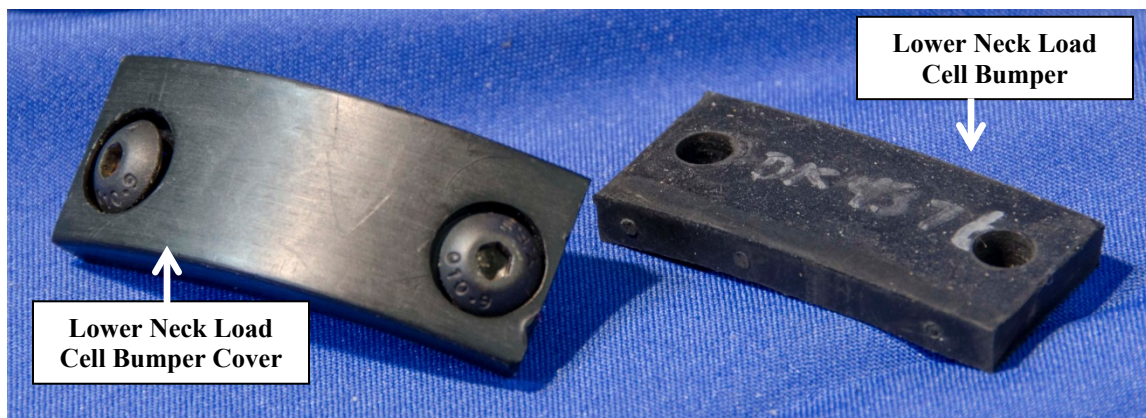
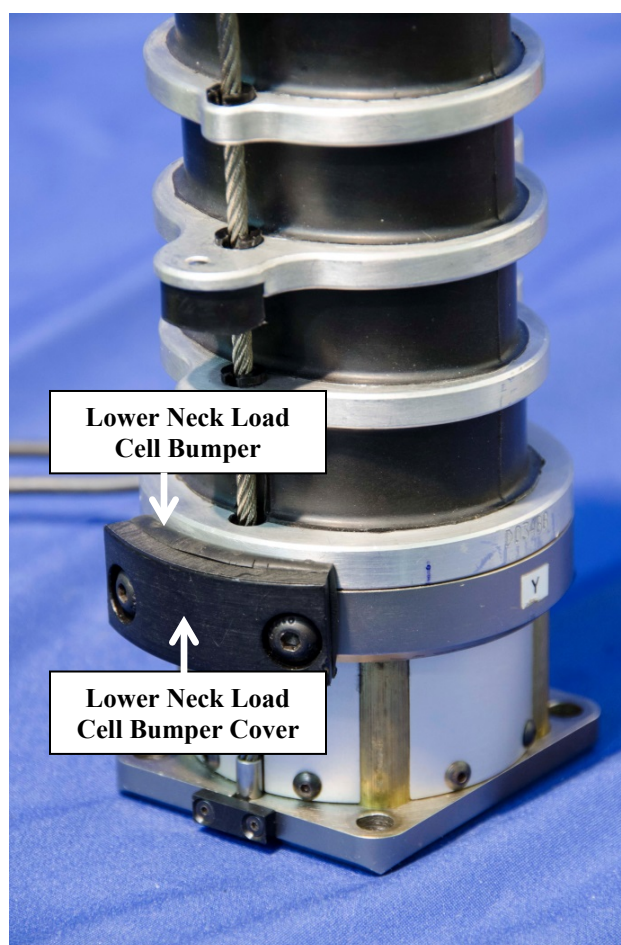

Figure 4-22. Lower neck load cell bumper and bumper cover
Figure 4-23. Neck load cell bumpers installed
4.2.2.12 Place the Lower Neck Load Cell Bumper (472-2002) against the front of the lower neck load cell. Position the Lower Neck Load Cell Bumper Cover (472-2001) over the bumper and secure in position with two M5 x 0.8 x 12 BHCS (Figure 4-22 and Figure 4-23).